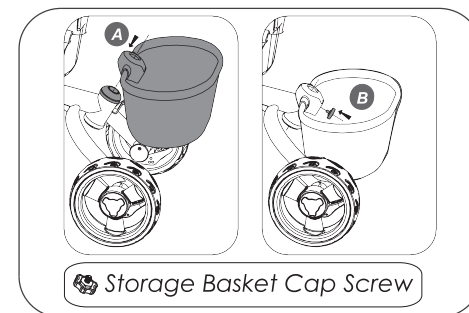

Fig. 7
9. Align the Storage Basket with the Parent Handle Frame Opening **A** on the back of the Frame and push down (See Fig. 7).
10. Insert the Storage Basket Cap Screw **B** into the Storage Basket Cap Screw Opening and hand-tighten (See Fig. 7).